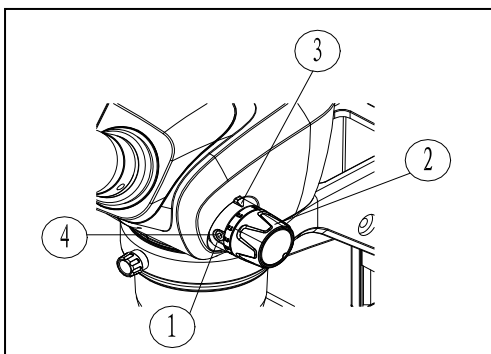

Fig 7
**3.2.3 Usage of zoom magnification limiter(Fig 7)**